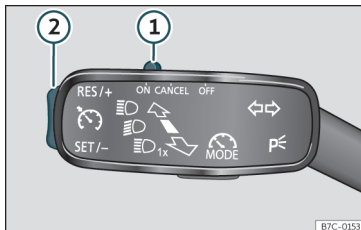

Fig. 43 Left of the steering column: CCS switch and controls.
- Switching on the CCS: Move switch »» Fig. 43 ① to **ON**. The system is on. If no speed has been programmed, the system will not control it.
- Activate the CCS: Press button »» Fig. 43 ② in the **SET/-** area. The current speed is memorised and controlled.
- Temporarily switching off the CCS: Move switch »» Fig. 43 ① to **CANCEL** or push the brake. The cruise control system is switched off temporarily.
- Reactivating the CCS: Press button »» Fig. 43 ② in **RES/+**. The memorised speed is saved and controlled again.
- Increasing stored speed during CCS regulation: press button ② in **RES/+**. The vehicle accelerates until the new stored speed.
- Reducing stored speed during CCS regulation: press button ② in **SET/-** to lower the speed by 1 km/h (1 mph). Speed is reduced until reaching the new stored speed.
- Switching off the CCS: Move switch »» Fig. 43 ① to **OFF**. The system is disconnected and the memorised speed is deleted.